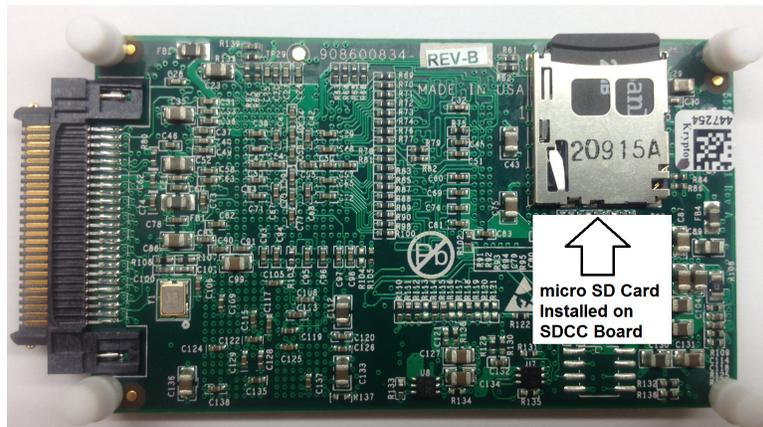
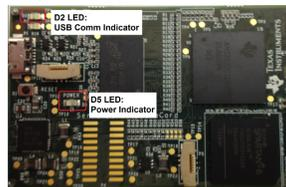

Figure 5. Bottom View of the Simple Capture Card with the microSD Memory Card Installed
Figure 6. Bottom View of the ADS86xxEVM Board with the microSD Memory Card Installed
Figure 5 and Figure 6 show the bottom view of the simple capture card and the ADS86xxEVM, respectively, with the microSD card installed.
1. Ensure that the microSD card is installed on the back of the Simple Capture card and ADS86xxEVM respectively, as shown in Figure 5 and Figure 6.